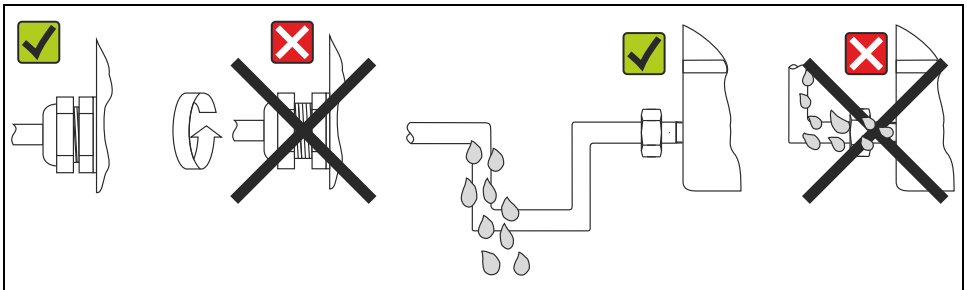

Fig. 4: Connection hints to retain IP67 protection
- Firmly tighten the cable gland (Fig. 4).
- The cables must loop down before they enter the cable glands (“water trap”, Fig. 4). This means that any moisture that may form cannot enter the gland. Install the device so that the cable glands are not facing upwards.